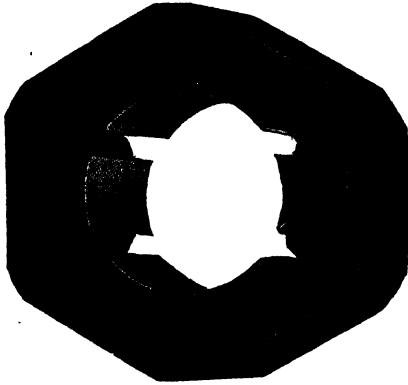
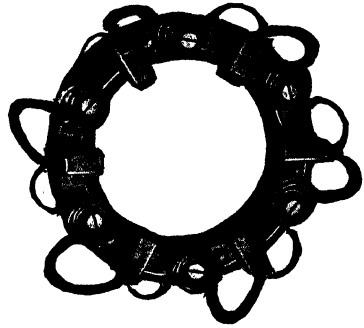
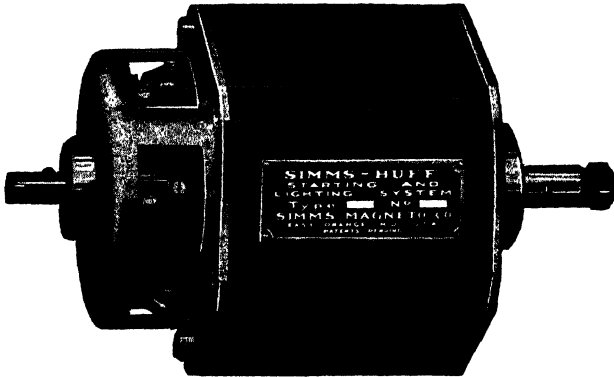

Fig. 320. Field Frame, Poles, and Windings for Simms-Huff Dynamotor
Fig. 321. Brush Rigging for Simms-Huff Dynamotor
Fig. 322. Simms-Huff Dynamotor with Commutator Housing Plates Removed
**Dynamotor.** The dynamotor is of the multipolar type having six poles, as illustrated in Fig. 320, which shows the field frame, coils, and poles. Fig. 322 illustrates the assembled brush rigging, while Fig. 321 shows the complete unit with the commutator housing plates removed.